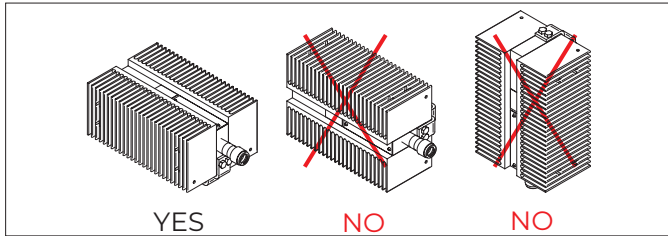
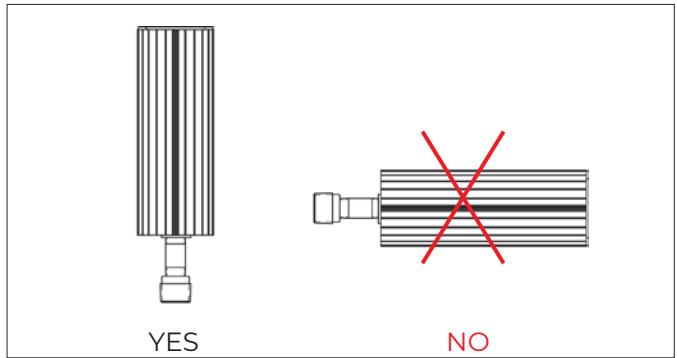

Figure 11 – XPAL and XPAS heater mounting orientations (horizontal only)
Figure 13 – XPAR heater mounting orientations (vertical only)
7. The XPAX, XPAL and XPAS heater relies on vertical convective flow through its fins to operate properly. The unit must be mounted in the horizontal or side mount orientation, as applicable. Under no circumstance can the heater be mounted vertically on its end with the junction box on the top or bottom and the flat fin surfaces in a horizontal position. The XPAR heater must be mounted vertically with the junction box at the bottom. Refer to Figure 11– Figure 13, page 5 for allowable mounting orientations.
To ensure safe operation, heater must be installed as shown in Figure 11– Figure 13, page 5). Installation with fins in the incorrect orientation may result in an unsafe condition (refer to Table 2, page 6)